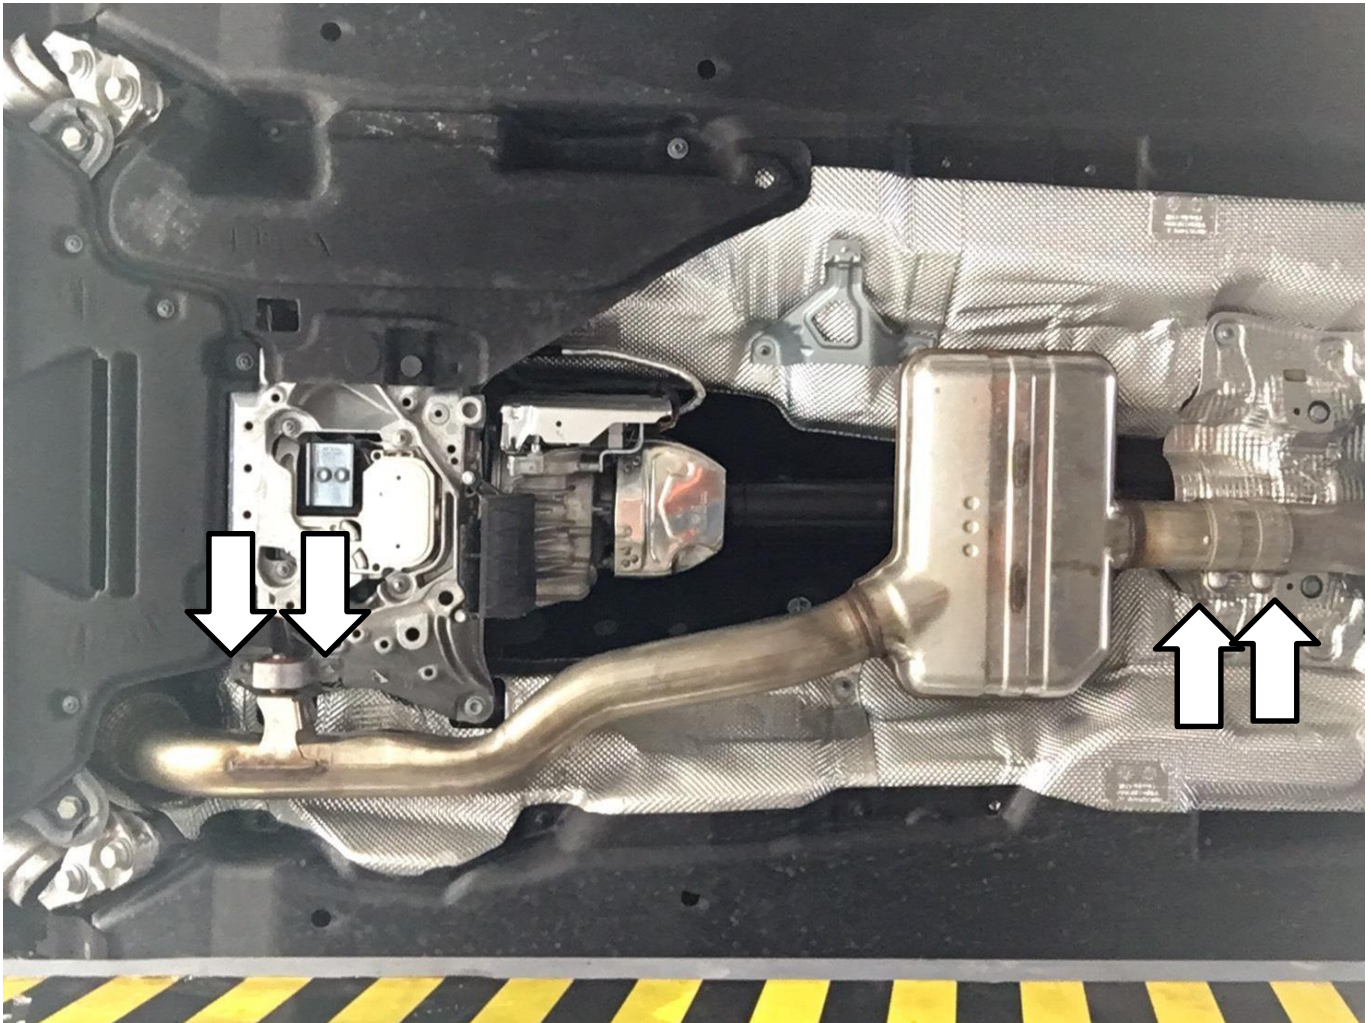

Fig. 3
3. Loosened the front pipe bushes and clamps (Fig.3)